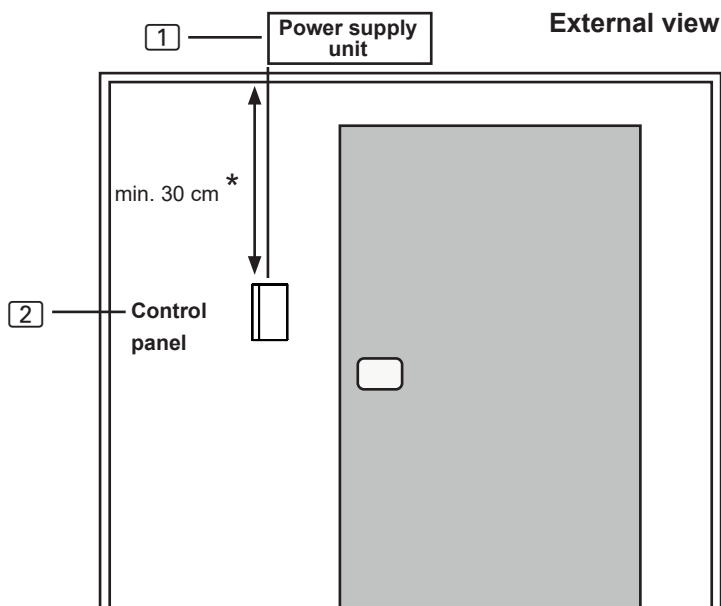

Fig. 4 Control panel position
The control panel [2] is installed on the cabin wall at a maximum distance of 10 metres from the power supply unit [1] (see Fig. 4).
* For installation inside a sauna cubicle, a minimum clearance of 30 cm from the cubicle roof must be maintained (see Fig. 4).